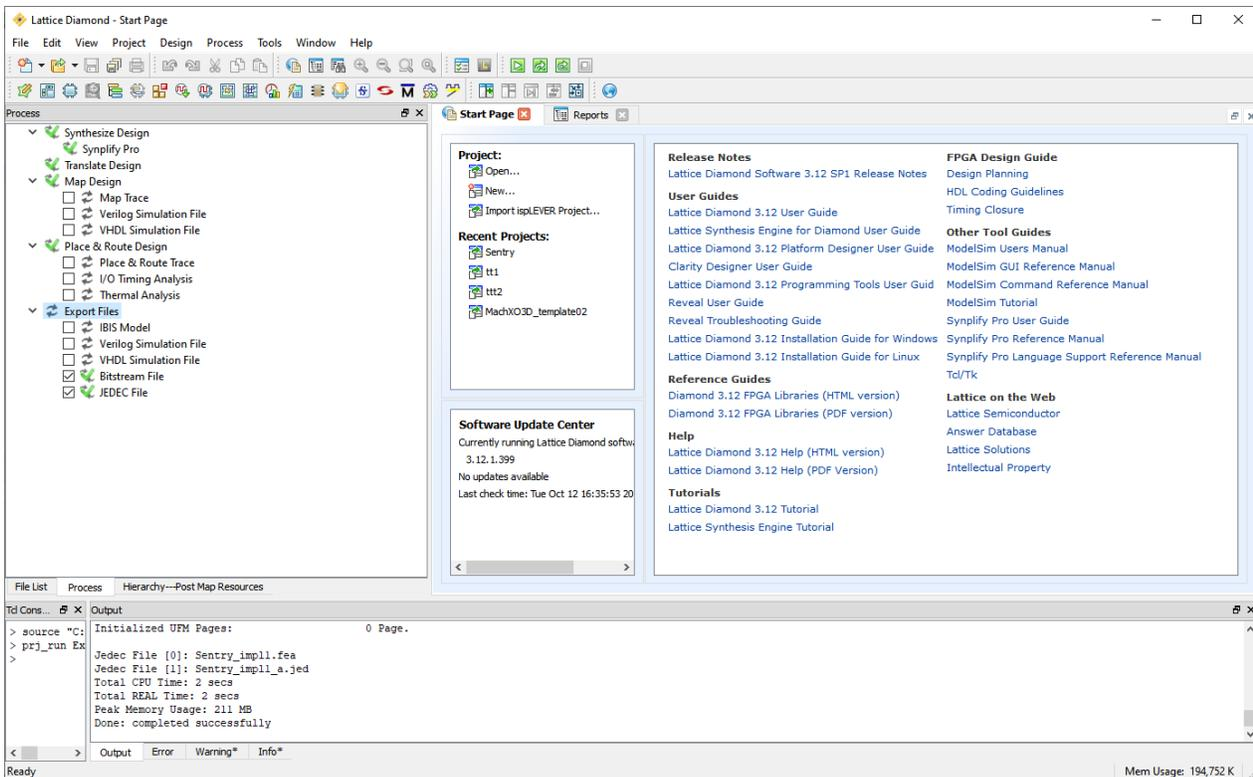

Figure 2.60. Generate Programming Files
- Switch to **Process** view of the Diamond project (Figure 2.60). Make sure at least one programming file (IBIS Model, Verilog Simulation File, VHDL Simulation File, Bitstream File, or JEDEC file) is selected in the **Export Files** section. Available programming files can be different upon specific device included.